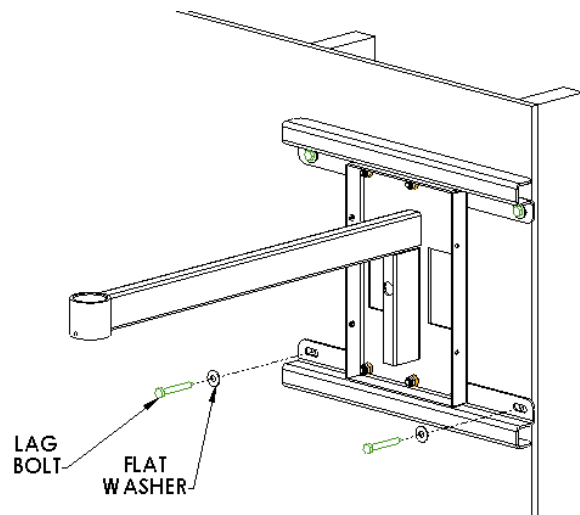

Figure 5. Attach Bottom Stud Spanning Adapter to Wall
1. Locate two lag bolts (40) and two flat washers (50).
2. Using a 15/64" drill bit, drill two pilot holes for anchoring the bottom stud-spanning adapter (20).
3. Using two 5/16" lag bolts (40) and two 5/16" flat washers (50), secure the bottom stud-spanning adapter (20) on the wall. See Figure 5.